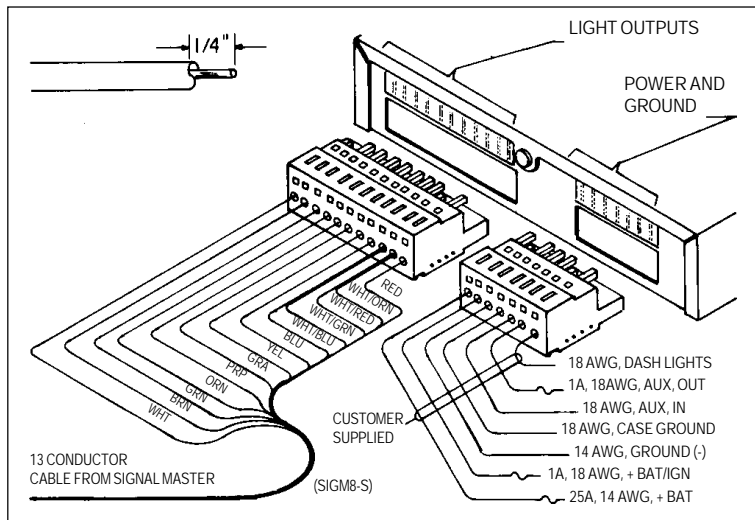

Figure 2.
The control unit is supplied with a seven-position connector and a eleven-position connector to perform the electrical installation. User-supplied, 14-gauge red and black wires are required for the (+) BAT and (-) GND connections on the seven-position connector. User-supplied, 18-gauge red and green wires are required for the (+) BAT/IGN and (-) CASE GROUND connections on the seven-position connector. In addition, user-supplied 18-gauge wire is used for the AUX IN, AUX OUT, and DASH LIGHTS connections. Using figure 2 as a guide, complete this portion of the installation as follows:
The AUX OUT connection will provide a ground to activate a ground-activated relay (user-supplied) when the AUX switch is operated. To perform the wiring for these connections, proceed as follows (see figures 2 and 3):
See figures 2 and 3. Connect a user-supplied 18-gauge wire to the seven-position connector's DASH LIGHTS connection. Route the wire to the vehicle instrument light circuit (if backlight dimming is required) or the accessory terminal of the ignition switch and terminate as required.
c. Connect the twelve 18-gauge wires and 12-gauge red wire to the eleven-position connector as shown in figures 2 and 3. Positions 9 and 10 will have two wires in the connector as shown in figure 2.